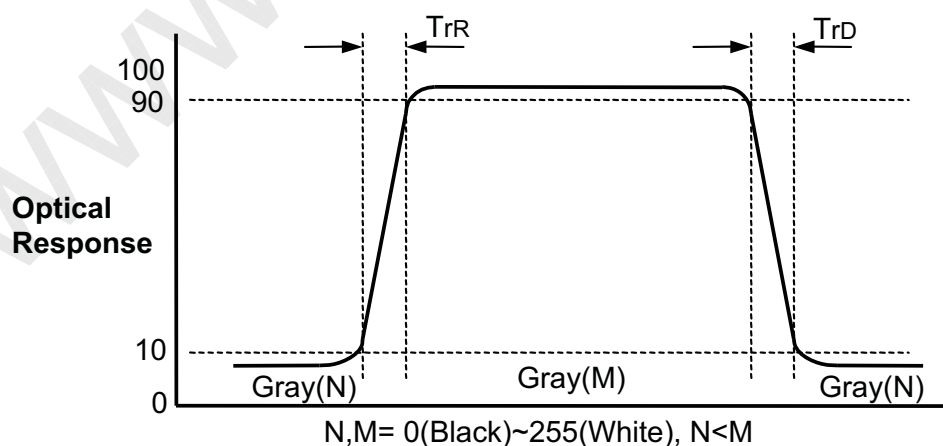

FIG. 3 Response Time
- Response time is the time required for the display to transition from G(N) to G(M) (Rise Time, Tr_R) and from G(M) to G(N) (Decay Time, Tr_D). For additional information see FIG 3. ($N < M$)